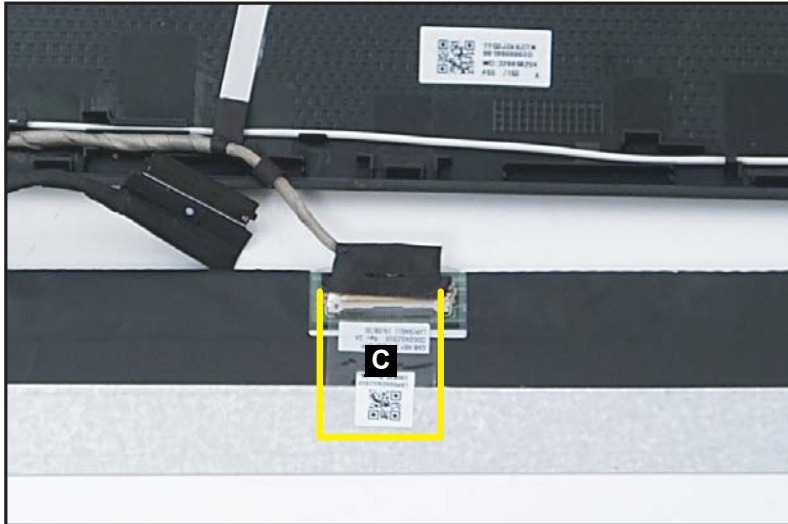

Figure 1-52. LCD Panel Removal
- Carefully turn the LCD panel over so that the display panel is facing down on a flat surface. Then detach the mylar tape (C) securing the eDP cable to the LCD panel (Figure 1-52).